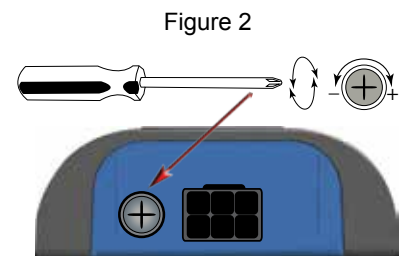

Figure 2
4. Slowly adjust level on LP5-2 until you reach the target voltage of the amplifier. (figure 2)
3. Slowly adjust front channel gain of LP5-2 until just a hint of distortion is audible, and then back down gain just under that threshold and the distortion goes away. (figure 2)